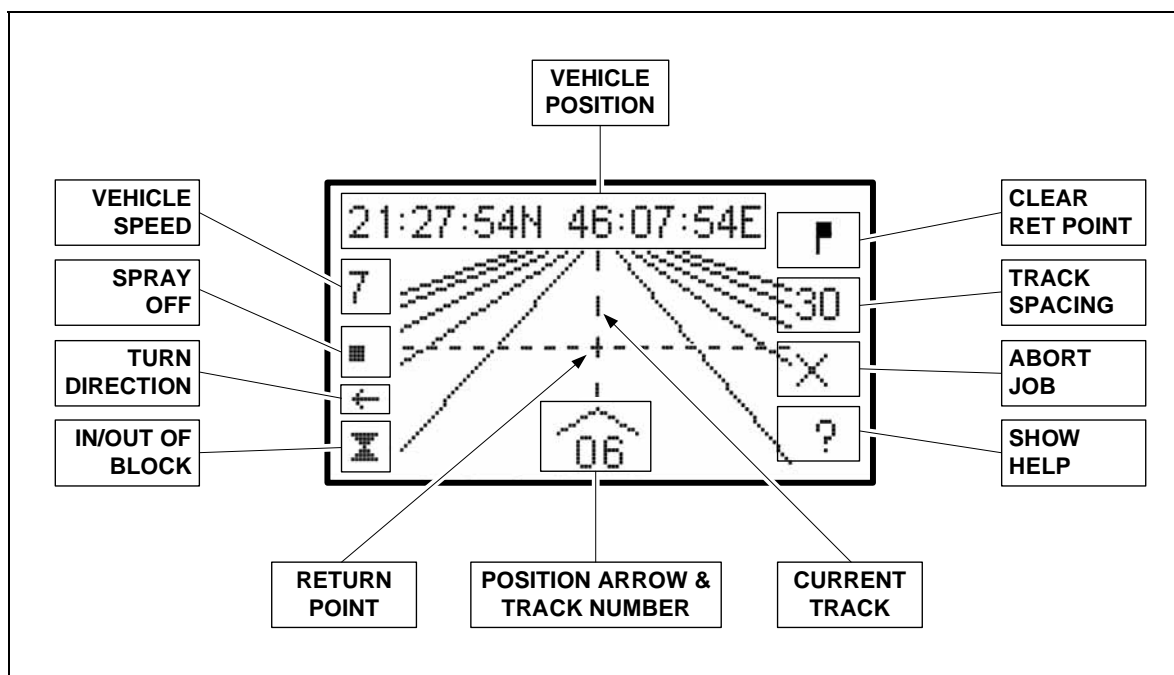

Fig. 13 – Display When Approaching Return Point
6. When the vehicle approaches to the return point (at the distance specified in the Spraytrac configuration), the display will change to track guidance mode and the dashed line representing the last spray track will come into view. The return point will be indicated by a dotted line intersecting the dashed line – see Fig. 13.
7. Drive onto the spray track and follow this to the return point, ensuring the vehicle is on the same heading as before (as noted in step (2) above).